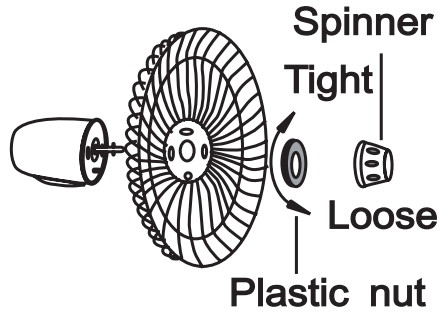

Fig.1
1. Take the spinner out of the bag. Fix the rear grill to the motor then tighten the plastic nut. (Fig. 1)